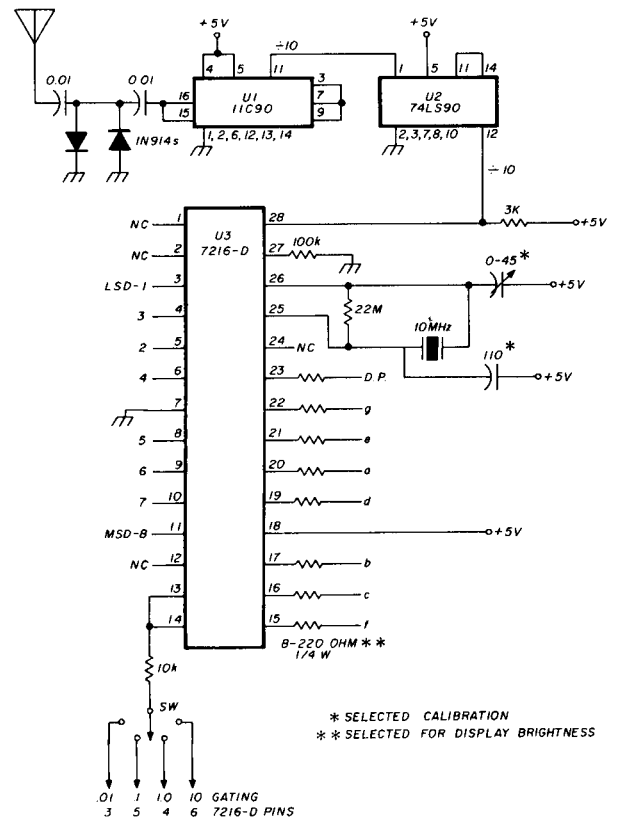
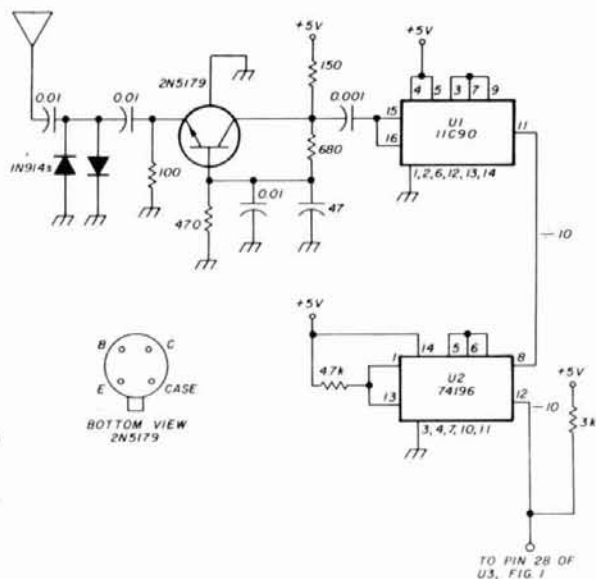

fig. 1. 250-MHz counter using the Intersil ICM-7216-D counter chip.
fig. 2. 600-MHz counter, which uses the 74196 chip to replace the 74LS90 divider of fig. 1.
A small pocket-type counter is designed with sensitivity, frequency range, and accuracy to use for emergency frequency calibration of TR-22 handi-talkies. To meet these requirements, a bare minimum of parts evolved into the circuit of **fig. 1** with the following specifications:
The handi-counter frequency response may be extended to around 600 MHz as shown in **fig. 2**,* in
which a 74196 chip (U2) is substituted for the 74LS90 (U2 in **fig. 1**). The specifications for the circuit in **fig. 2** are as follows.
- Accuracy: same as the circuit of **fig. 1**
- Readout: same as the circuit of **fig. 1**
The circuits in **figs. 1** and **2** are the same old standbys that have been used for years, so no credits are given. The 11C90 divides the incoming signal by ten into the 74196 or 74LS90, once more dividing by ten into the 7216-D.
I used the Heathkit laboratory breadboard in the investigation of the many features available in the 7216-D. I used only a few features of the 7216-D (more later about these). Both circuits were thoroughly checked in breadboard fashion. I decided on the circuit of **fig. 1** for my counter; you may wish to do otherwise. I used the small LED readout display from the calculator, **fig. 3**.